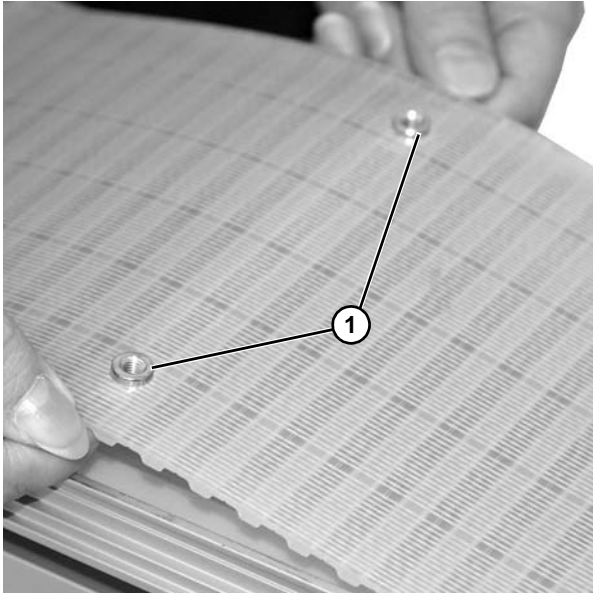

Figure 15
2. Install inserts (**Figure 15, item 1**) from underside of belt.